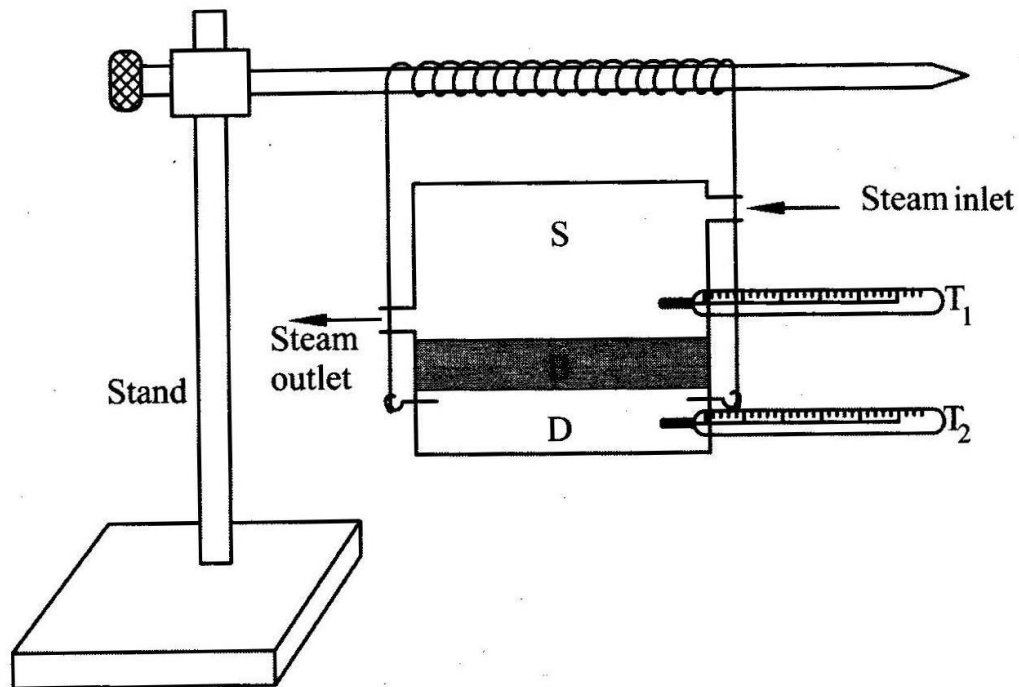

Fig. C-7
The given bad conductor (B) is shaped with the diameter as that of the circular slab (or) disc ' D '. The bad conductor is placed inbetween the steam chamber (S) and the disc (or) slab (D), provided the bad conductor, steam chamber and the slab should be of same diameter. Holes are provided in the steam chamber (S) and the disc (or) slab (D) in which thermometer are inserted to measure the temperatures. The total arrangement is hanged over the stand as shown in fig. C-7.